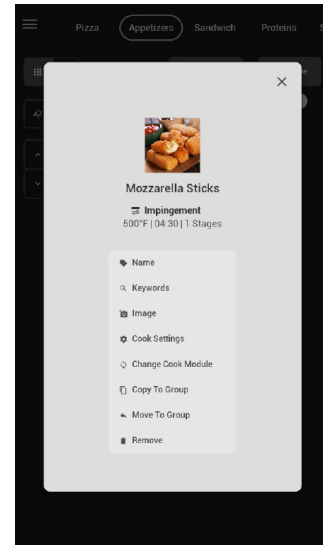

Figure 32: Edit Recipe Options
4. Select an option (Figure 32, above).